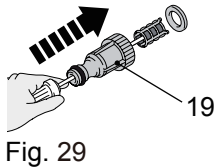

Fig. 29
2. Remove the water inlet hose connector (19) from the water inlet (14).
3. Use a damp tool to disassemble the water inlet hose connector (19) (Fig. 29).